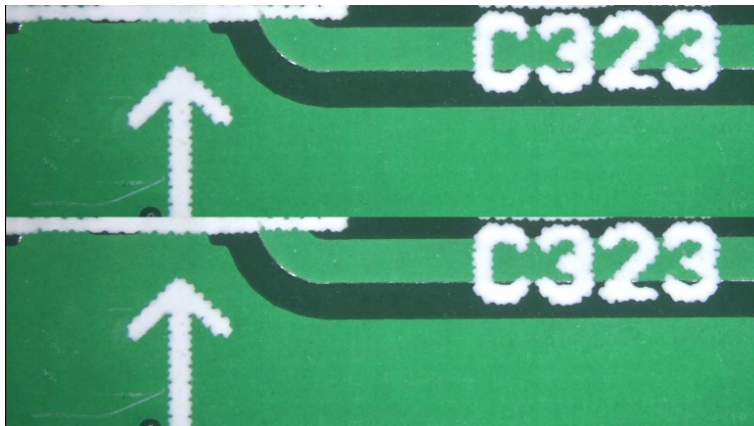

Fig 5-52 Top Side Compare mode
- Top Side Comparison : Enable/Disable the Top Side Compare mode. The loaded image is on Top side. Bottom side image is live preview image. Below Fig 5-52 Transparency: 100%, Image Location: 100%, Offset Ratio: 0%, Image Ratio: 50%.